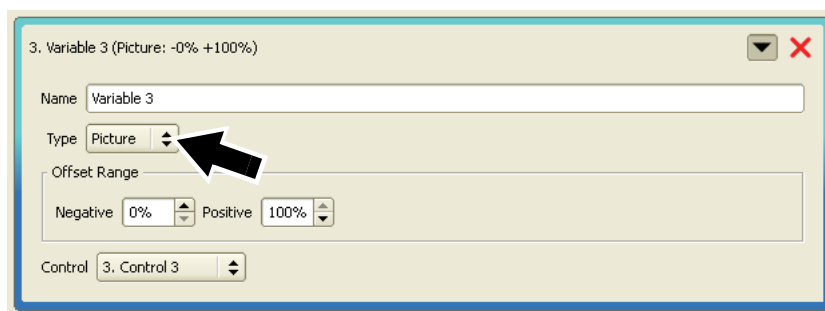

Figure 23: **Picture** variable
Picture Variables (see arrow in Figure 23) let you use DMX commands to control the overall intensity and/or individual color intensities of one or more panels.
1. Create a new variable as described above, but select **Position** as the **Type** (see arrow in Figure 23).